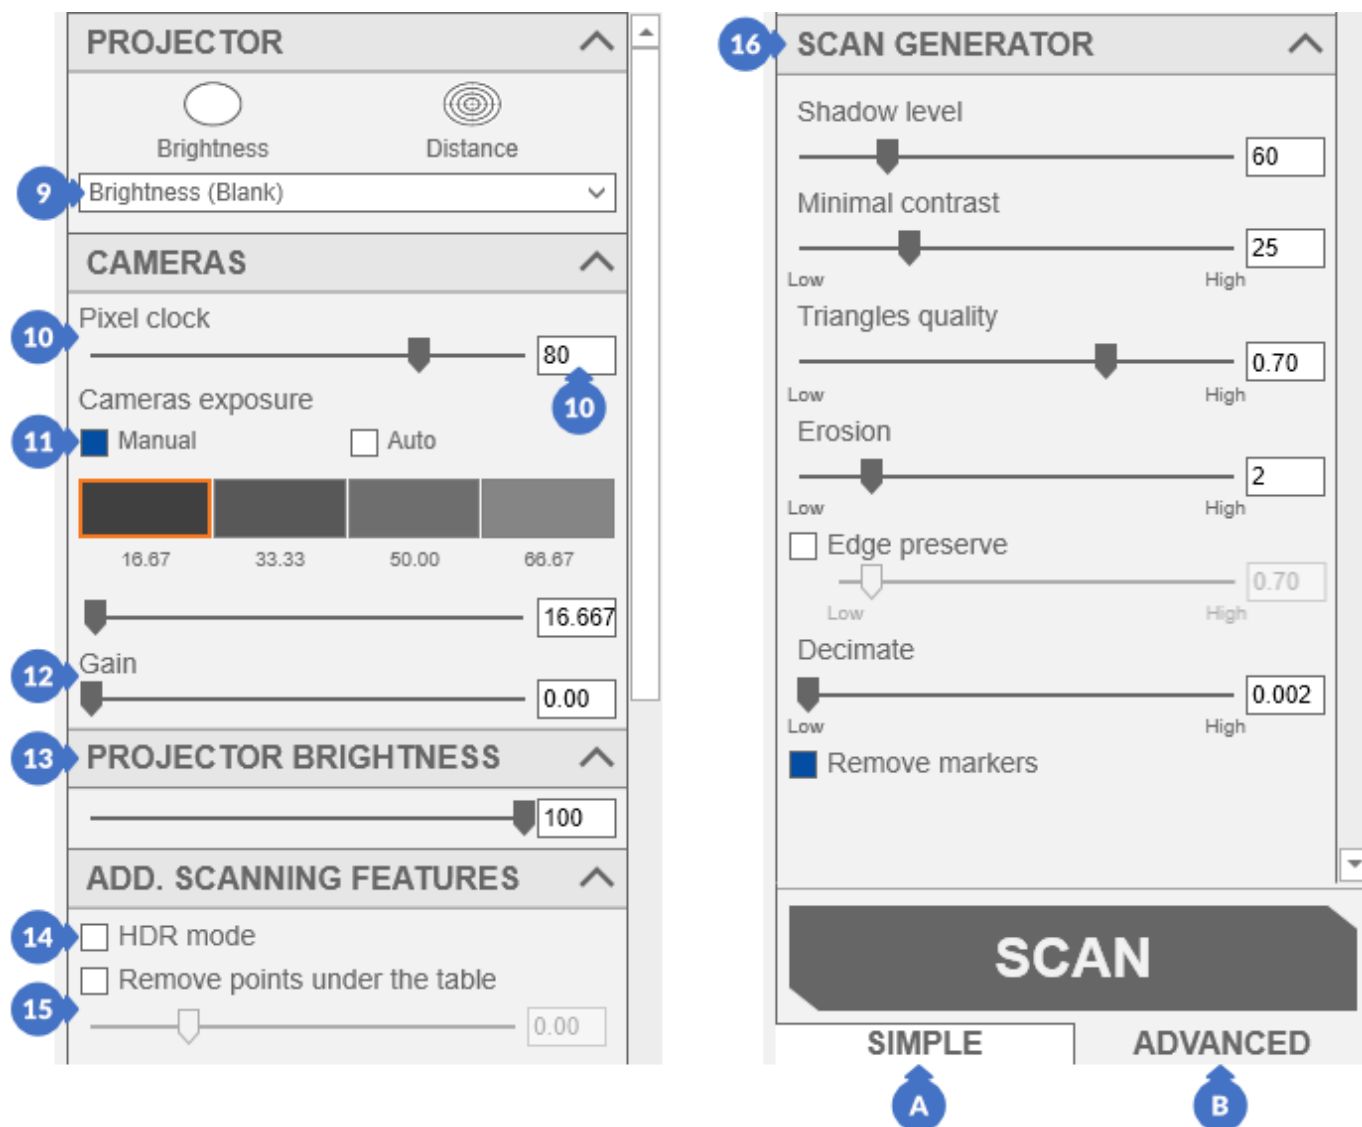

Figure 243. Scanning panel (the ADVANCED view)
For more advanced users, there is the *ADVANCED* (B) (Figure 243) tab which combines the functionality of the *SIMPLE* tab and additionally has the following options: